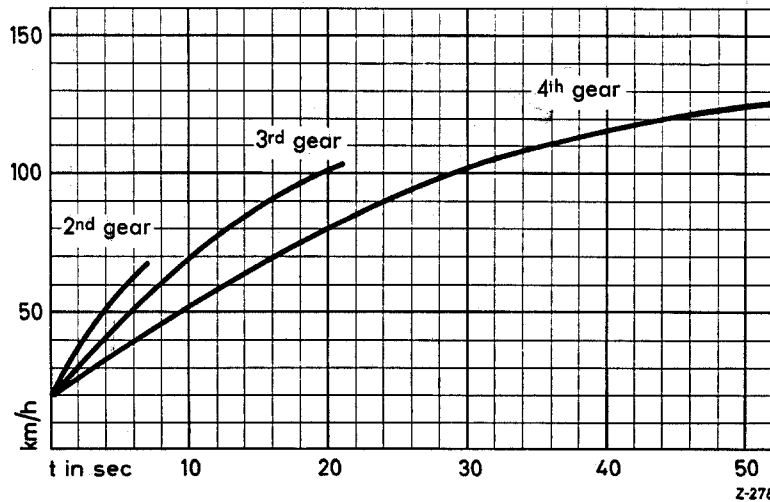

Fig. 00 — 4/3
In practice it is frequently necessary to check the acceleration values of a car. For this purpose the acceleration values can be taken from the acceleration curves below (Fig. 00 — 4/3).
- k) The acceleration curves given in Fig. 00 — 4/3 only apply if the vehicle is in good working order. In order to eliminate the effect of unfavorable conditions a tolerance of +5 to +6% is permissible.